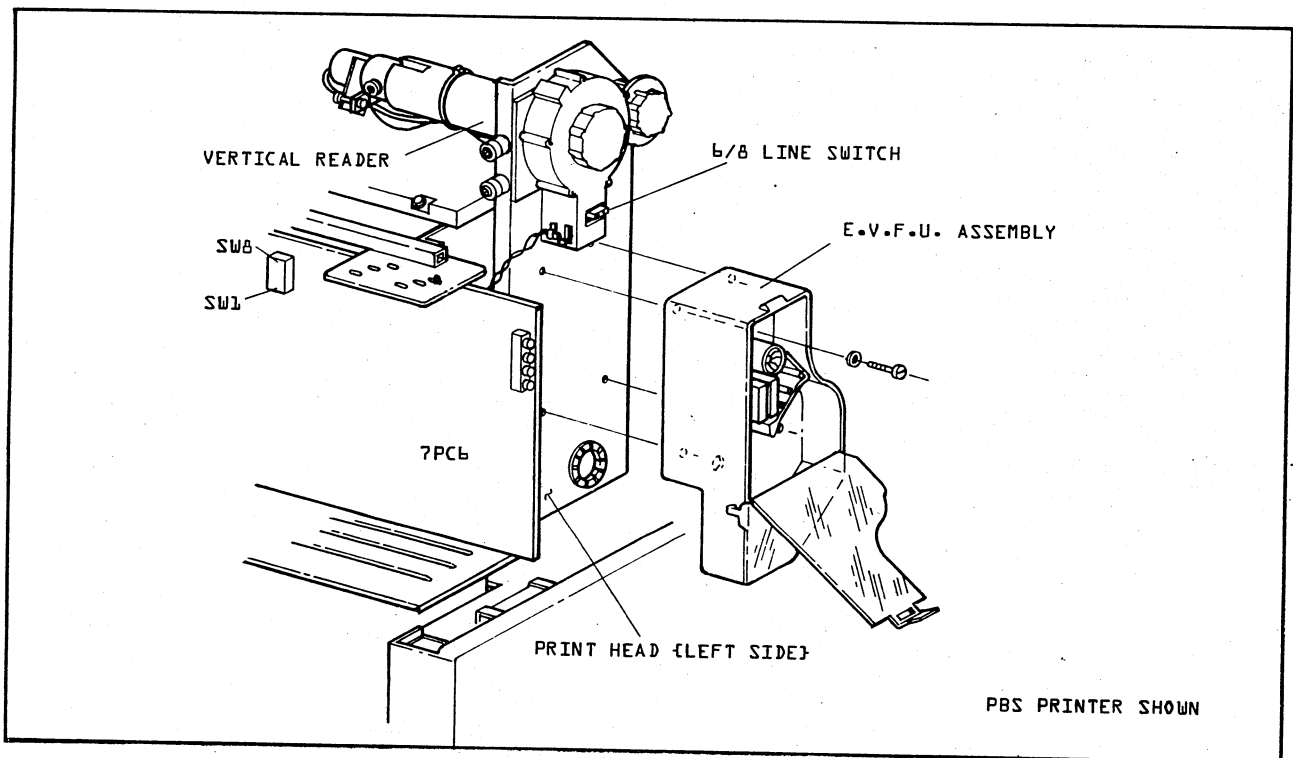

FIGURE 4-3. PBS ASSEMBLY INSTALLATION
16. Install the E. V. F. U. reader assembly on the left side of the print head structure as shown in Figure 4-3.